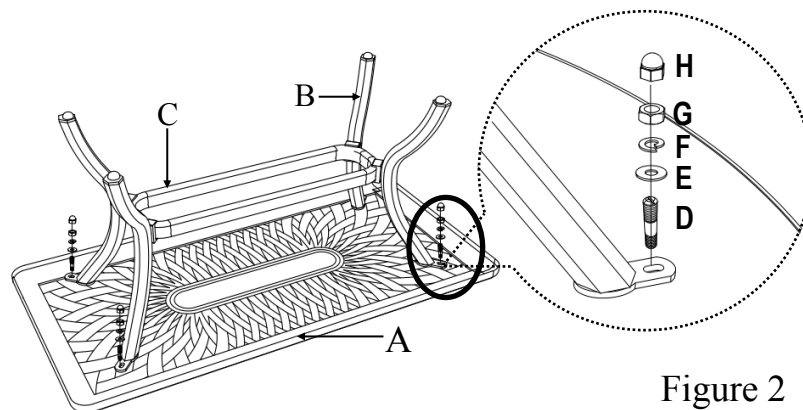

Figure 2
**2** Carefully turn the table top (A) upside down on a soft surface. Align the holes in the legs (B) with the holes in the table top (A). Loosely secure table legs (B) to table top (A) by the bolts (D) through large flat washers (E), large lock washers (F) and nuts (G) using wrench (N). As shown in figure 2.